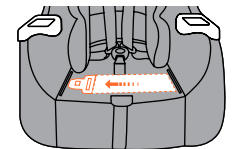

Fig. 26a
- Route Lap Belt through the rear facing belt paths and under the seat fabric (Fig. 26a). **NOTE:** Remove any twist in webbing to ensure the webbing lies flat for securing the car seat to the vehicle.